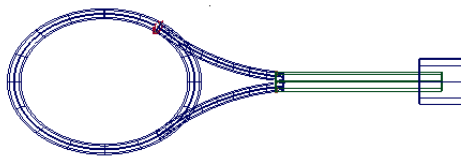

Figure 3-81 Cylinder created for the cap of the handle
3. Choose the **Rotate** tool from the **Transform** tab in the **Palette** and rotate the cylinder along the Z-axis, as shown in Figure 3-81.